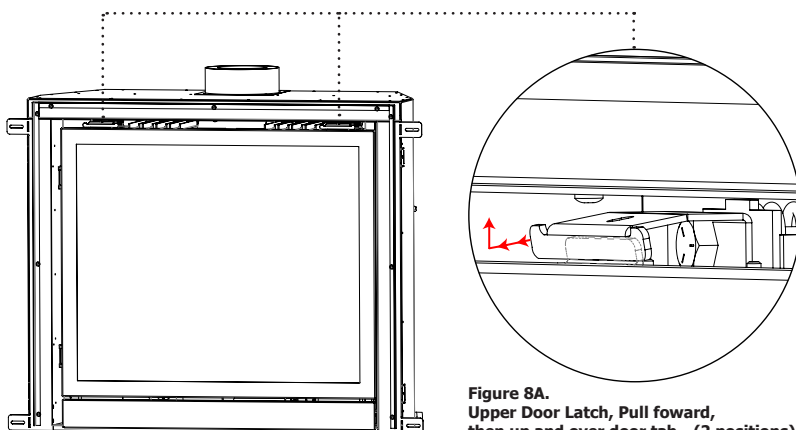

Figure 8A. Upper Door Latch, Pull forward, then up and over door tab - (2 positions)
Step 2. To remove the glass door use your two index fingers to pull the spring latches up over the two door tabs. Fig. 8A